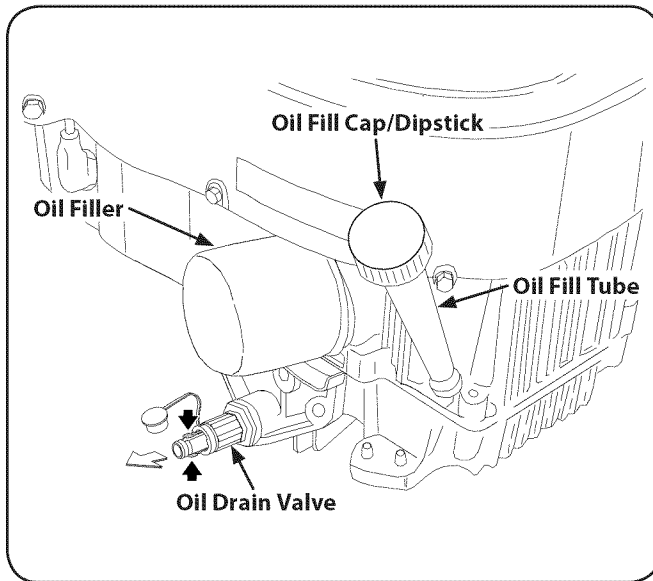

Figure 6-1
3. Pop open the protective cap on the end of the oil drain valve to expose the drain port. Refer to Fig. 6-1. Remove the oil fill cap/dipstick from the oil fill tube.